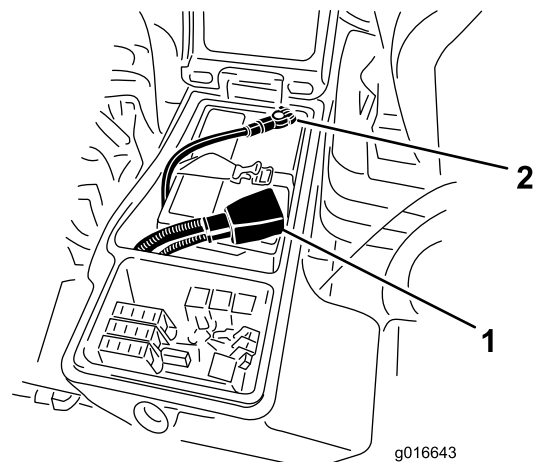

Figure 58
6. Install the positive cable (red) to the positive (+) terminal and the negative cable (black) to the negative (-) terminal of the battery (Figure 58).